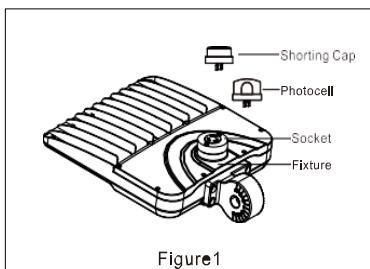

Figure1
1. Shorting cap or photocell is matched to the base holes. (Figure 1)